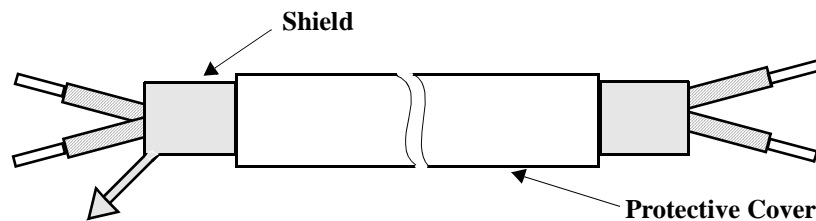

Fig.4 Shielded Wire
1. To prevent noise, use shielded wire as specified in Fig.4.
4. Connect the AO-12B2 grounding lead wire (E) to the inverter control board's grounding terminal 12.